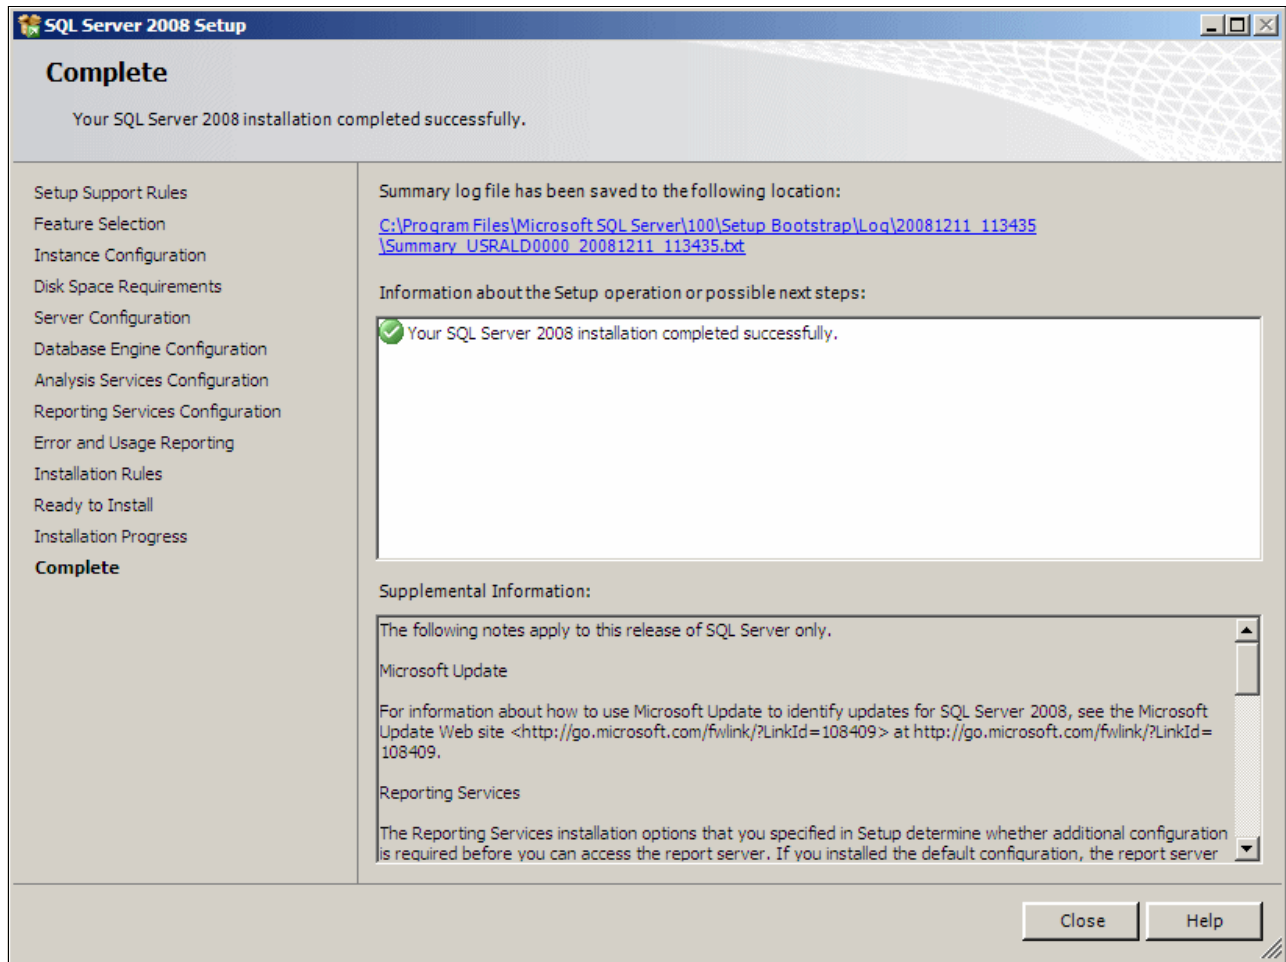

Figure 6-33 Installation complete
17. The “Complete” panel (Figure 6-33) displays when the installation is complete. Click **Close**.